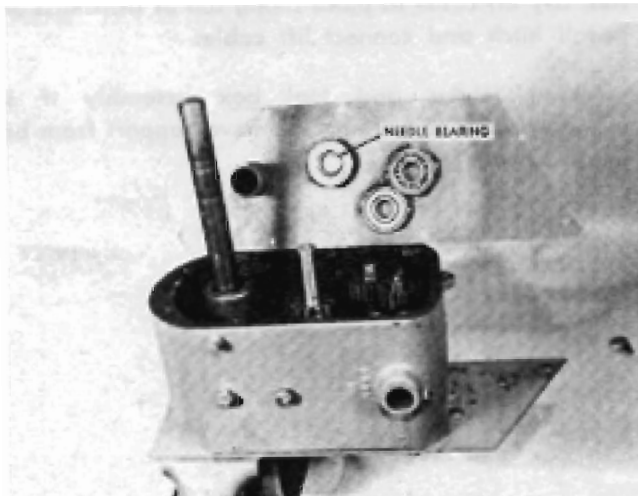

FIGURE 2
5. Remove the nine left cover retaining bolts and lift off the cover. NOTE: Figures 2 and 3 show the two types of covers used on these transmissions, one with a ball bearing and one with a needle bearing at the brake shaft location. Replacement information for each type is given in Service Notes 1 and 2, Page 12.